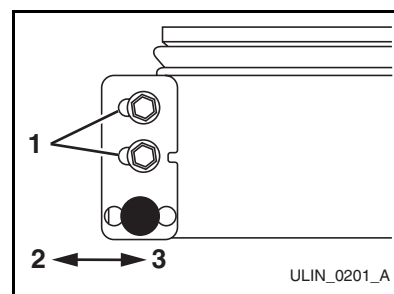

Figure 20
- Your plate has slotted mounting holes (**Figure 20, 1**). Loosen but do not remove the two hinge plate screws.
4. If door edge opposite the hinges needs to move up, move plate toward outside of door (**Figure 20, 2**). If door edge needs to move down, move plate toward inside of door (**Figure 20, 3**). Repeat until top edge of door is parallel with top of cabinet and tighten screws securely (**Figure 20, 1**).